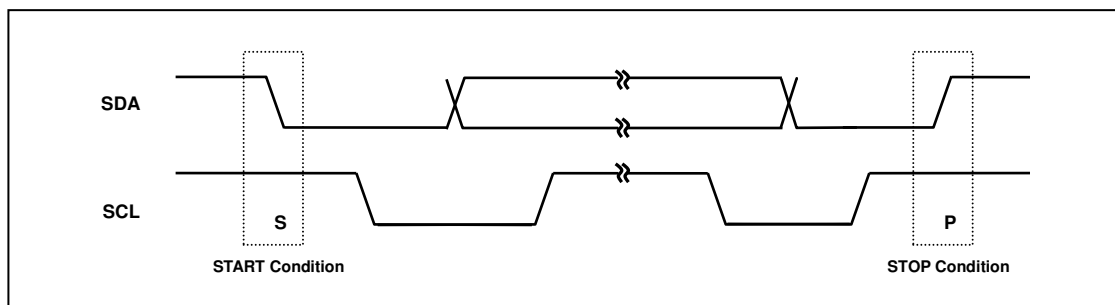

Figure 14.6. START and STOP Condition
Within the procedure of the I2C-bus, unique situations arise which are defined as START(S) and STOP(P) conditions; see Figure 14.6.